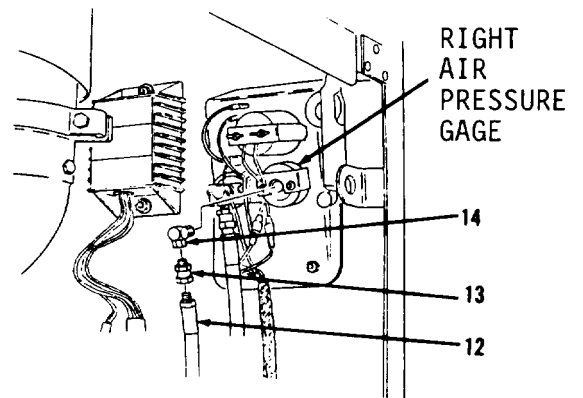
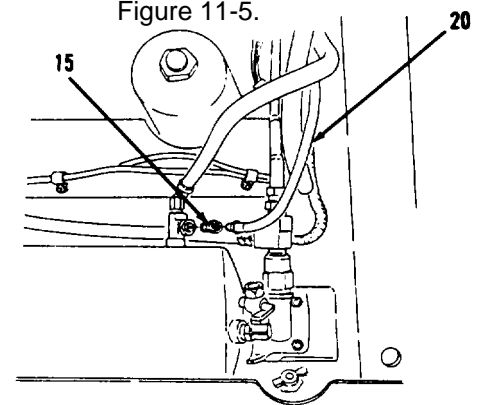

Figure 11-5.
Figure 11-6.
7. Disconnect hose assembly (12) from connector (13, Figure 11-5).
8. Remove hose assembly (12) from vehicle.
9. Remove connector (13) and elbow (14) from right air pressure gage.
10. Disconnect hose assembly (20, Figure 11-6) from air tank under rear, left side of vehicle.
11. Remove connector (15) from air tank fitting.